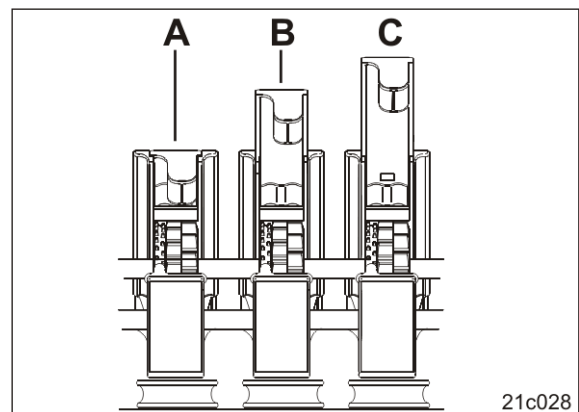

Fig. 166
2. Set the sliding shutters (Fig. 166) to the value from the table (see page 58).
The sliding shutters (Fig. 166) latch into one of three positions: